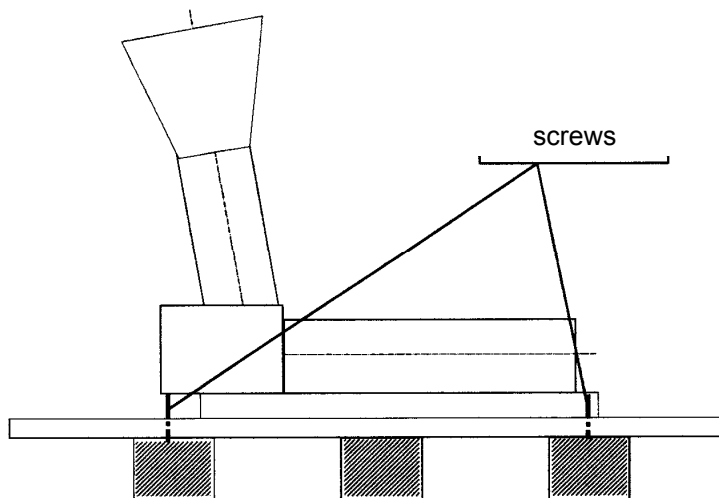

Fig. 2.0 Attachment to a palette
- The machine is attached via a wall bracket to prevent toppling over - see fig. 2.0.